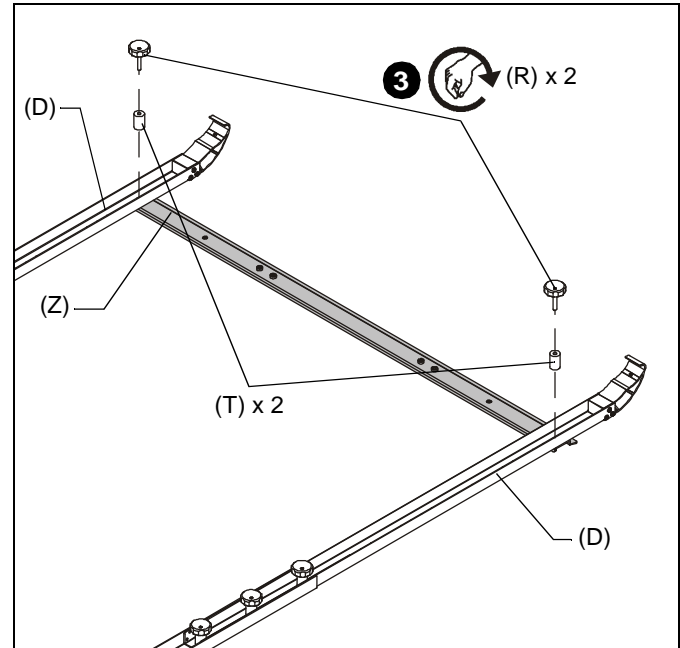

Figure 2
1. Lay two upright assemblies (D) on floor along side of whiteboard.
2. Determine where to fasten upper whiteboard hanger bracket (Z) to upright assemblies (D).
3. Fasten one whiteboard hanger bracket (Z) in upper position using one knob (R) and one 0.75x.265x1.125 spacer (T) on each upright assembly (D). (See Figure 2)